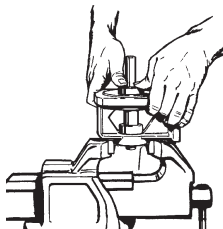

Figure 5-8
2. Place the pedestal, pump mounting surface up, in a vise or suitable fixture and insert the bearing assembly. It should be possible to install the shaft assembly with firm thumb pressure. Refer to Figure 5-8. If more force is required, the butt end of a hammer handle or plastic mallet may be helpful. The shaft assembly should never be forced or driven in.